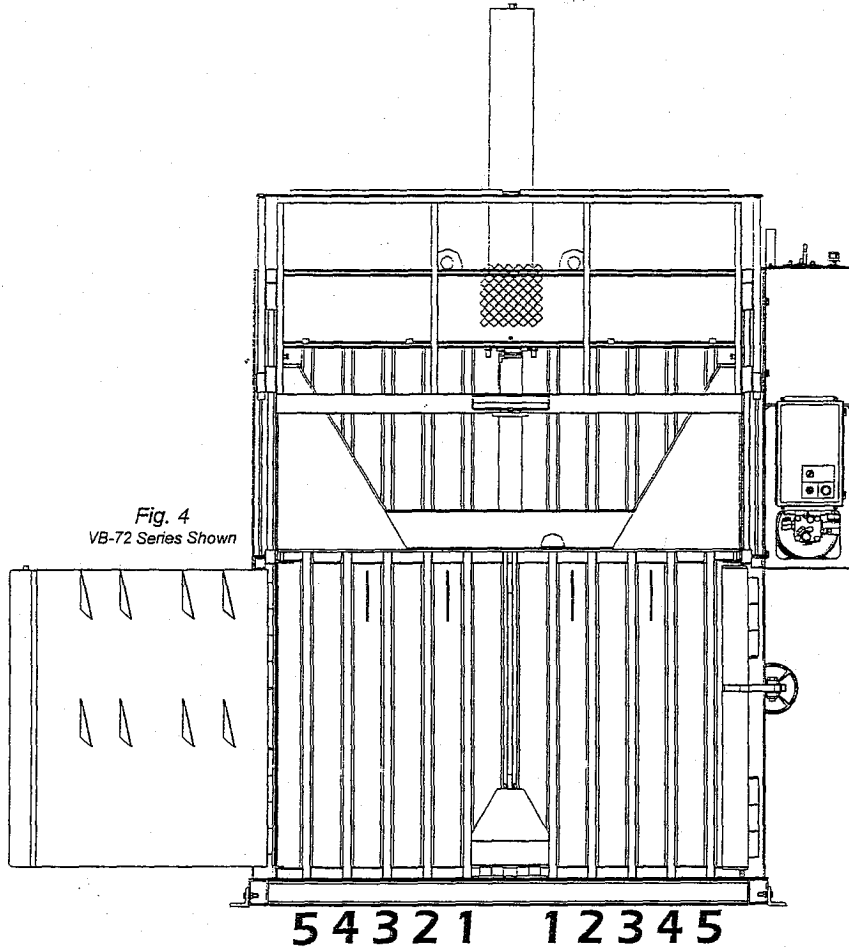

Fig. 4
7. Insert the bale ties through the tie slots (see Figure 4) in the presshead and in the floor, pull snug and tie.